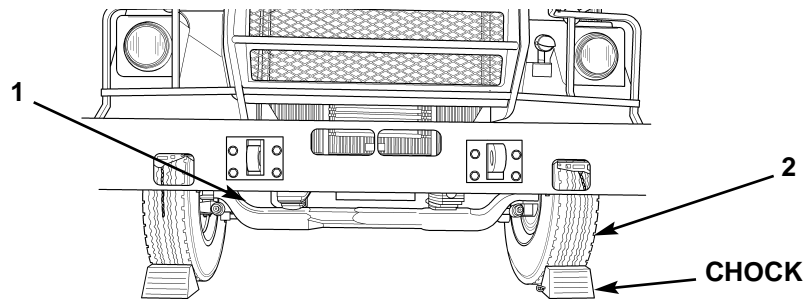

Figure 1. Chocking Front Wheels.
1. Place wheel chock in front of both tires (figure 1, item 2) on front axle (figure 1, item 1).